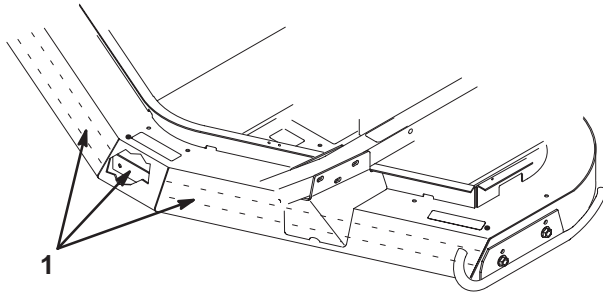

Figure 21
1. Loosen the fasteners securing the front and side baffles to deck straps (Fig. 21).